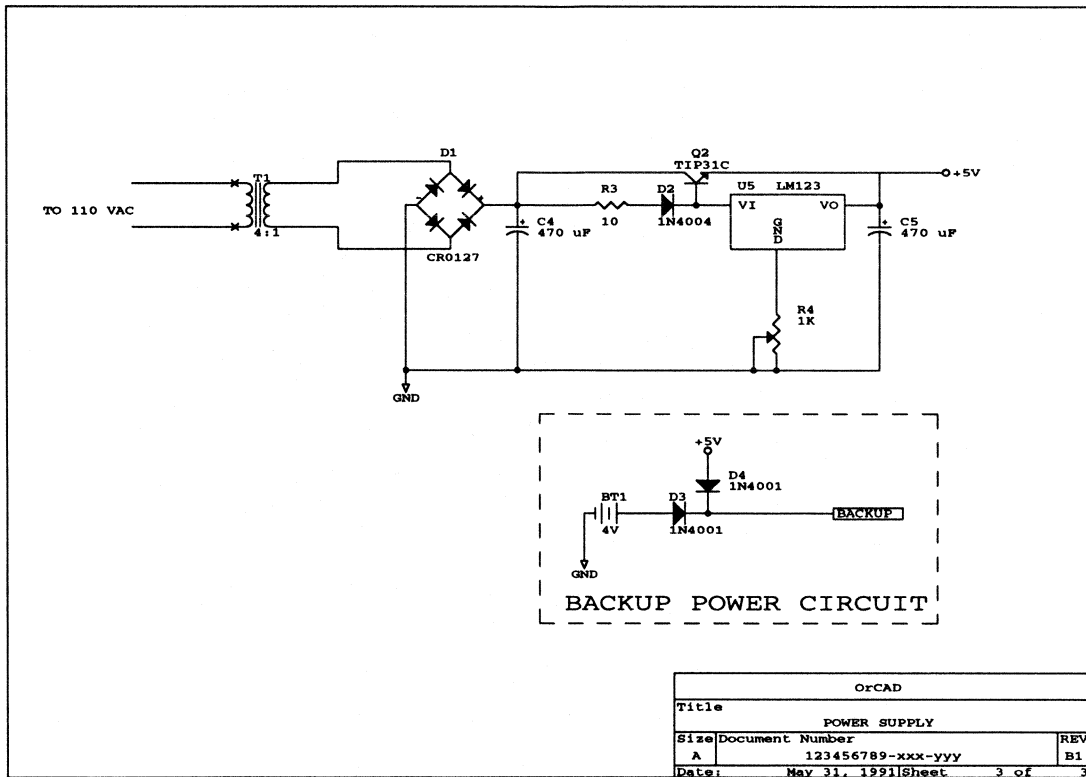

Figure 8-5. POWER SUPPLY worksheet.
2. Place the pointer inside the **POWER SUPPLY** sheet symbol and select **Enter**. Figure 8-5 shows the **POWER SUPPLY** worksheet.